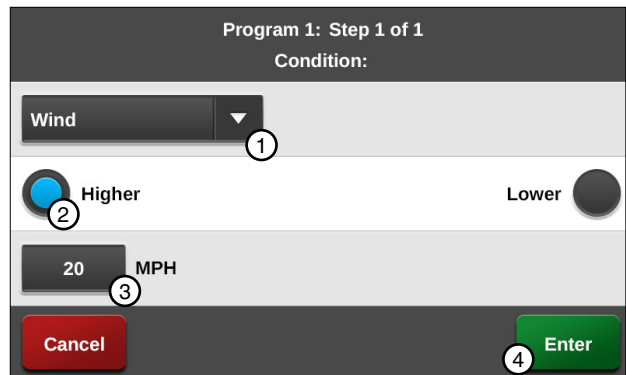

Figure 119-2 1. Wind Condition 2. Higher 3. MPH 4. Enter
3. To program using the Wind condition. Refer to Figure 119-2.